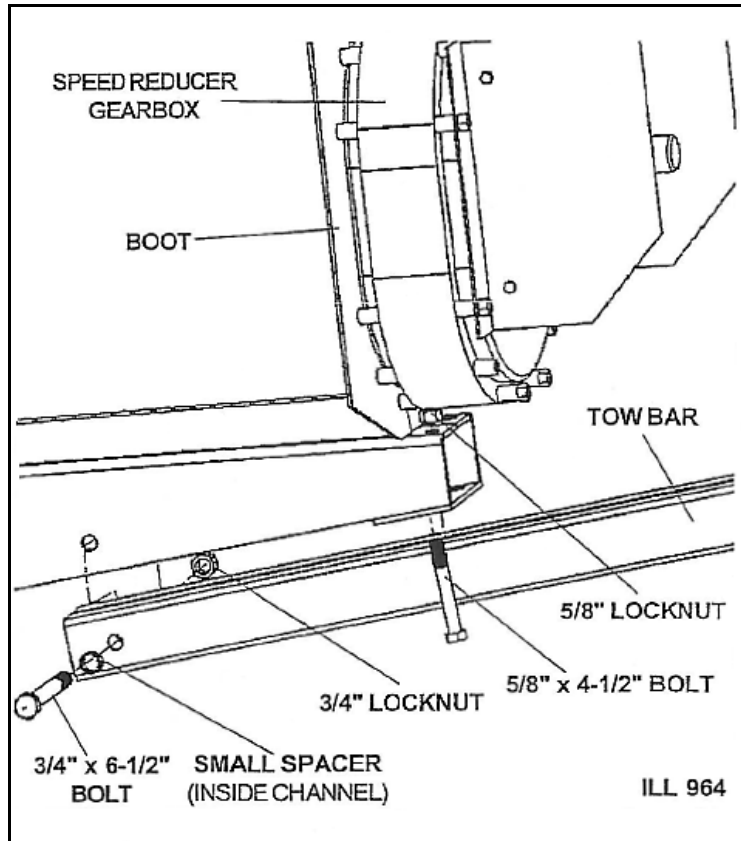

Figure 5
9. Loosen 5/8" locknut and remove the vertical 5/8" x 4-1/2" long bolt from tow bar. Loosen the 3/4" nut underneath the boot and remove the 3/4" x 6-1/2" long bolt out of the tow bar and boot channel. Slide the adjustable tow bar along boot channel until the hole in the tow bar lines up with the second hole in the boot channel (Figure 5).